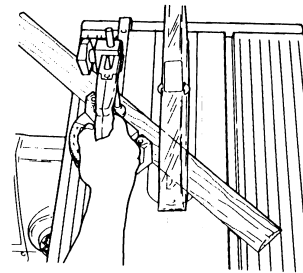

Figure C-11
- Mark the stock where you want to cut it. (It's easiest to measure from the outside corners of the miter.) Clamp the stock in the miter gauge and line it up with the blade. From this point on, the procedure is similar to crosscutting. See Figure C-11.